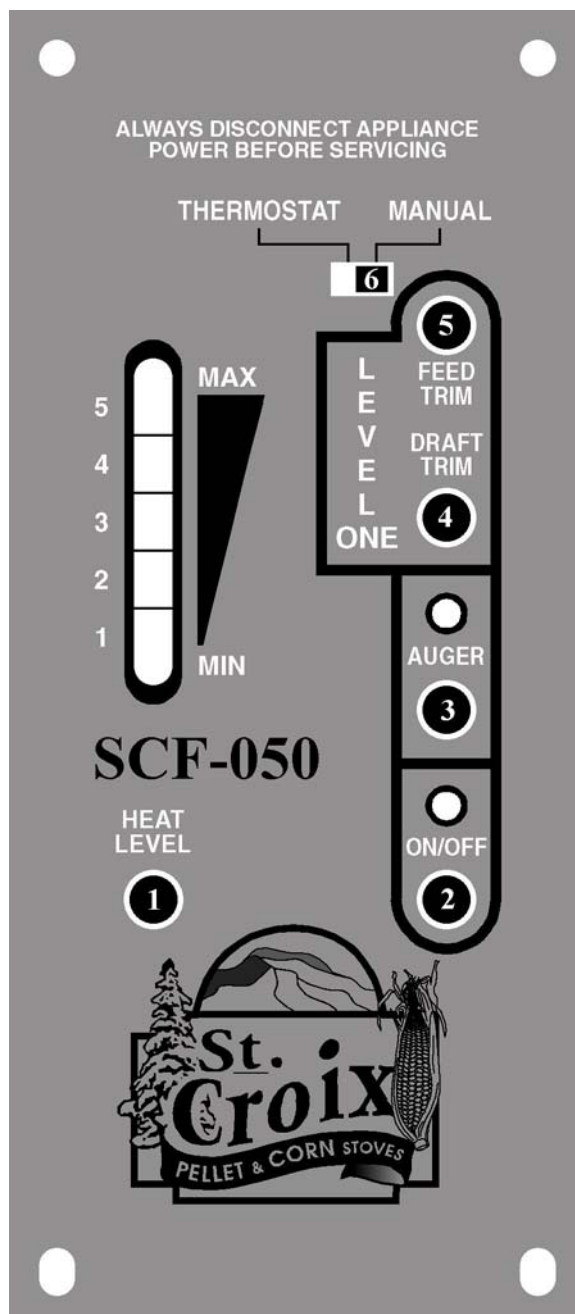

Figure 13
A closer look at the Control Board to the right in figure 13 will explain how the board works. There are five buttons labeled 1 through 5, a slide switch labeled 6 and a LED Light bar with 5 Heat Settings. ***The LED Light bar is also used during the Diagnostic process, see page 27 for more details.***
The buttons on the board function as follows: (Refer to Figure13. The touch pad buttons are labeled with the white numbers 1 through 5)
Shutting The Furnace Off *(Refer to Figure 13)*
The #2 LED and the #3 LED lights on the LED Light bar as show in figure 13 will flash to give a diagnostic code to help in diagnosing problems that may occur.
1. The **Proof of Fire** switch. This switch will sense the temperature of the Exhaust rising during start up. If the Exhaust temperature does not reach 110 degrees F, or if during use the temperature drops below 110 degrees F, the Furnace will go into **“Internal Alarm”** and the Auger will quit feeding fuel. Once the Furnace completes the safety shutdown, the #3 LED will start blinking. *(See Figure 13 on Page 24)*
2. The **High Limit** switch. This sensor will sense if the unit reaches temperatures that are too high for normal operation. If this happens the Auger will quit feeding and the #2 and #3 LED lights will flash simultaneously. *(See Figure 13 on Page 24)*
3. The **Vacuum** switch. For the Furnace to operate correctly the firebox needs to be sealed. During the first 30 seconds after the Furnace has been turned on the control board will check to see if the switch senses negative pressure (Vacuum) in the firebox of the Furnace. If there is no negative pressure, the Furnace will go into “Safety shutdown” and the #2 LED will start blinking. *(See Figure 13 on Page 24)*